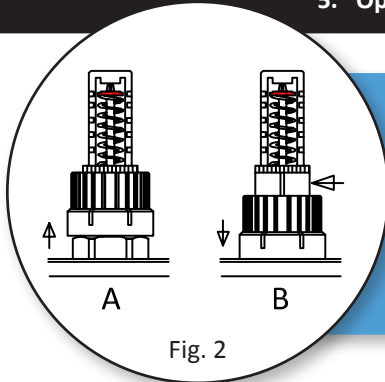

Fig. 2
5. Open the first flow meter (see fig 2.) and the first of the return valves. Begin filling the first circuit.